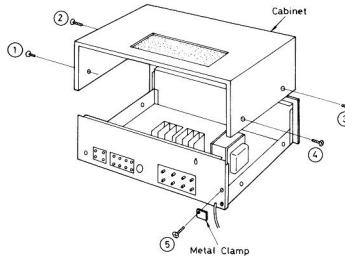

Fig. 1
1. Remove the four screws [fig. 1: ① ~ ④] at the left and right sides of the cabinet.
2. Loosen the chassis screw [fig. 1: ⑤] at the right side of the rear panel.